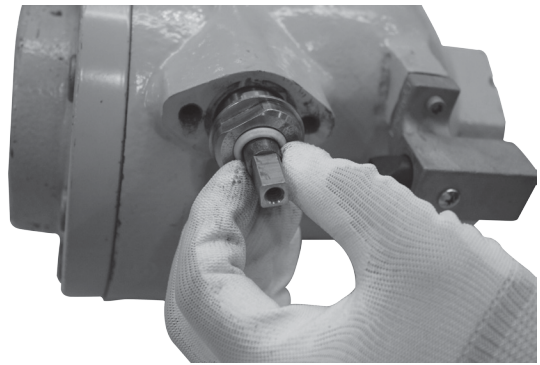
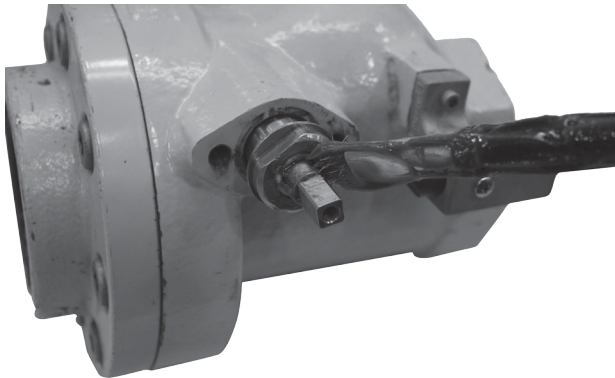

Figure 14. Install adaptor (step 5)
Figure 15. Lubricate (step 5)
5. Replace the male TFE packing adaptor with the flat side in, Figure 14, working it over the shaft and into the gland. Be careful not to damage this adaptor. Apply a liberal amount of Magnalube[®]-G grease on the face of this adaptor, Figure 15, that it will be trapped under the next ring.